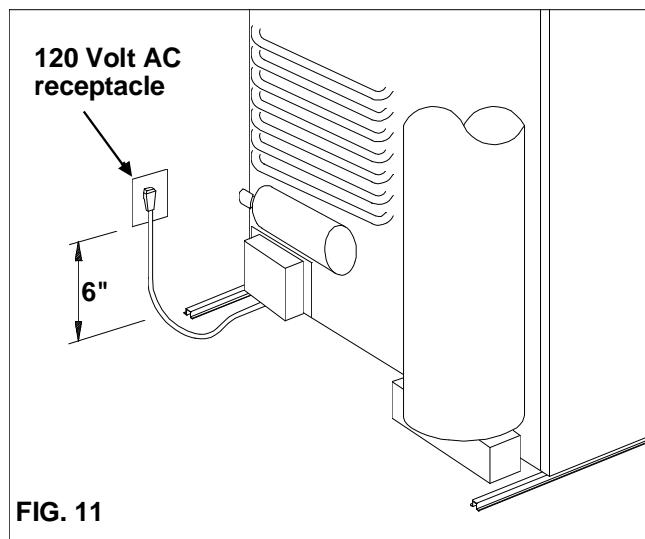

FIG. 11
The refrigerator is equipped with a three-prong (grounding) plug for your protection against shock hazards and should be plugged directly into a properly grounded three-prong receptacle. DO NOT cut or remove the grounding prong from this plug. The free length of the cord is 2 feet and therefore recommended that the receptacle be located to the left side of the refrigerator (viewed from the rear) and approximately 6 inches from the floor (see FIG. 11). This allows easy access through the vent door. The cord should be routed to avoid direct contact with the burner cover, flue cover or any other components that could damage the cord insulation.
1. Check to be sure the power cord is properly connected to the power supply. See FIG. 11). If the refrigerator is equipped for 12 volt DC operation, the tow vehicle or caravan engine should be running to prevent discharging the battery.